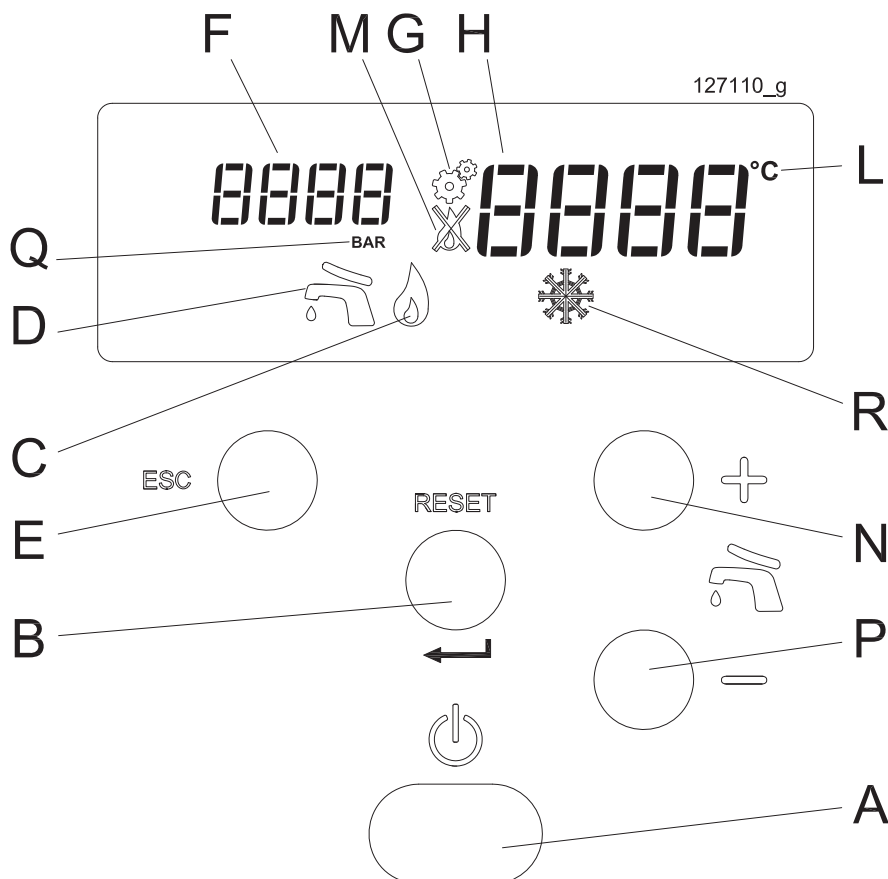

Figure 7-1 – Control board
- 1.- Turn on the appliance using switch "A" in Figure 7-1;
Figure 7-1 key
The temperature of the domestic hot water is adjusted using the  + and  - keys. Once one of the two keys has been pressed, the display "H" in Figure 7-1 starts to flash and show the temperature that is being set. The temperature of the domestic hot water can be set to between 40°C and 60°C.
By pressing and holding the  - key down even below 40°C, the message "OFF" appears which indicates that the domestic hot water service is being switched off. The icon "D" in Figure 7-1 also switches off.
Figure 7-1 shows parameter 0.000.